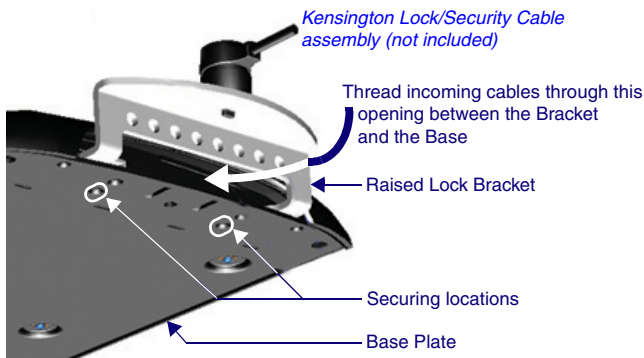

FIG. 4 Raised Securing locations
- Use the Keyed-Lock screwdriver adapter to tighten these screws, securing the Raised Lock Bracket to the base plate (FIG. 4).
- Thread the incoming cables through the opening between the bottom of the Raised Bracket and the Base Plate (FIG. 4).